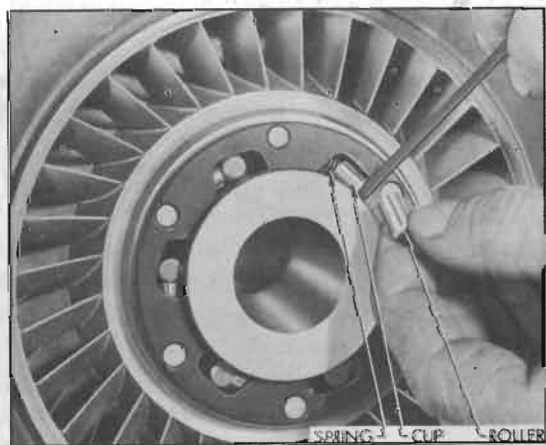

Figure 4-96—Installing Free Wheel Rollers in Pump
1. Insert the free wheel springs and spring cups in secondary pump. See figure 4-96.
3. Compress springs with a thin narrow tool and insert *long* free wheel rollers. See figure 4-96.